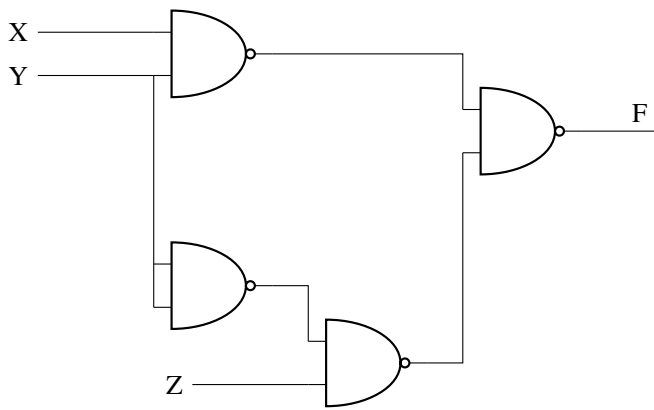

Fig. 3.9
20. Find F in the Digital Circuit given in the figure below in Fig. 3.9. (GATE IN 2016)